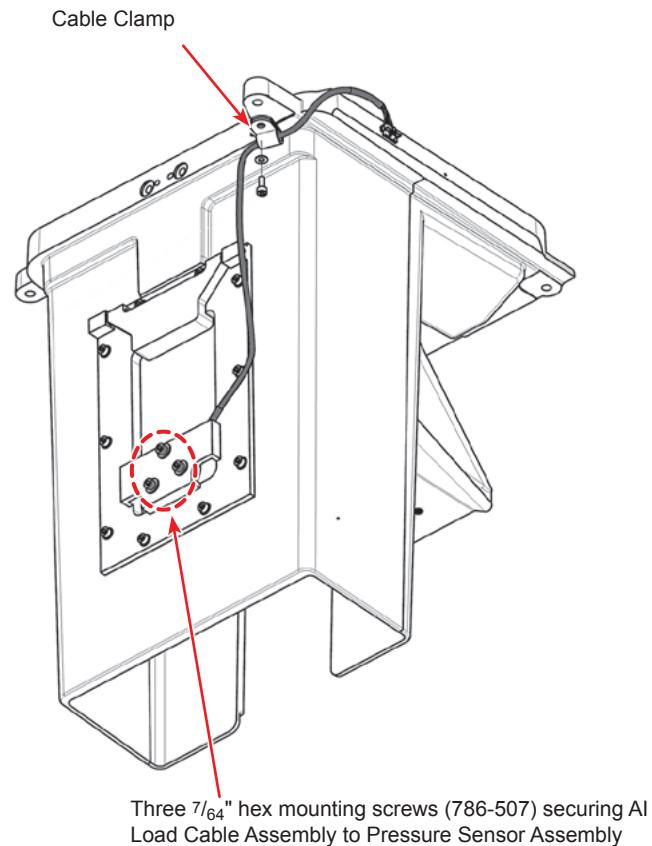

Figure 3-78 Active Irrigation Load Cable Assembly Removal from AI Module
- 57.2 Remove three $\frac{7}{64}$ " hex mounting screws securing AI Load Cable Assembly to Pressure Sensor Assembly (see Figure 3-78). **REPLACEMENT:** Tighten mounting screws evenly but do not over-tighten..